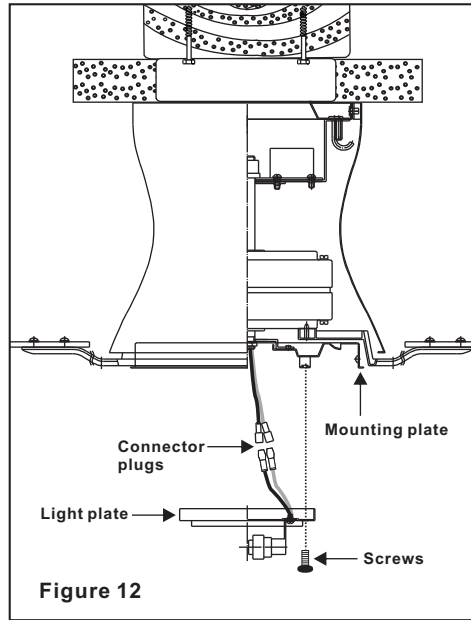

Figure 12
Step 2. Raise and hold the light plate close to the mounting plate and proceed to do the wire connections. Connect the white wire connectors from the light plate and fan, follow the same procedure with the black wire connectors. (Fig. 12)
Step 3. Place the key holes on the light plate over the 3 screws previously loosened from the mounting plate, turn light plate until it locks in place at the narrow section of the key holes. Secure by tightening the 3 screws previously loosened. (Fig. 12)